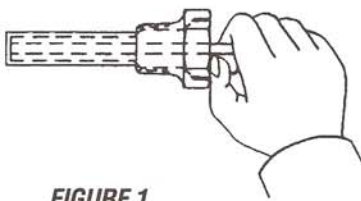

FIGURE 1
1. Measure well depth by inserting a pencil or small diameter rod into well until it reaches the bottom (Figure 1).